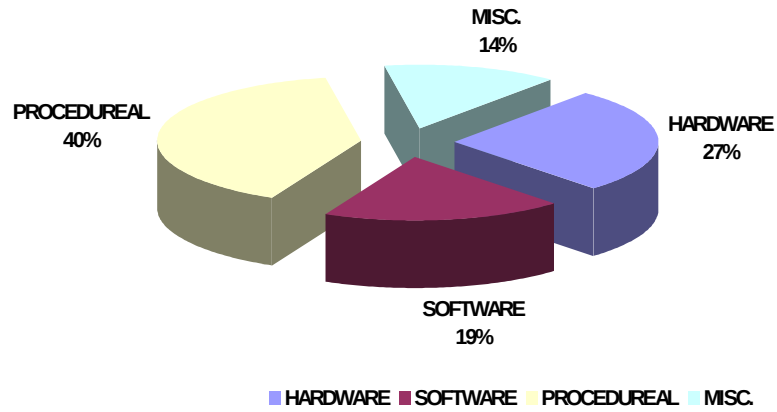

Fig. 2.2
- Analysis of calls attended at Control Room for 12 months period from January 1997 to December 1997 is shown in Fig. 2.2.